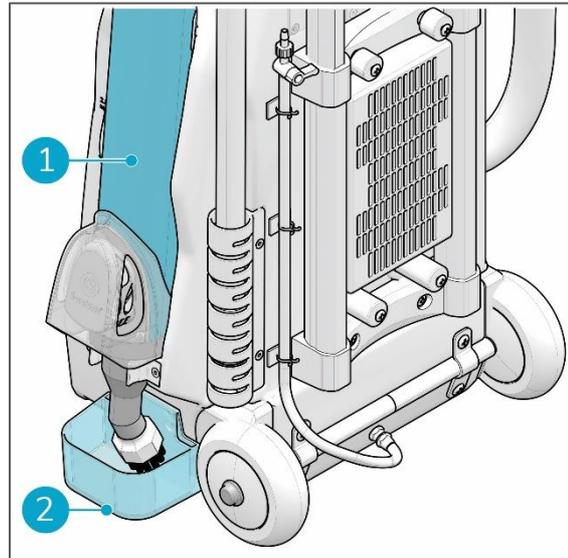

Figure 32
3. Take a new brush and press and turn counterclockwise (left) until in place (Figure 32).